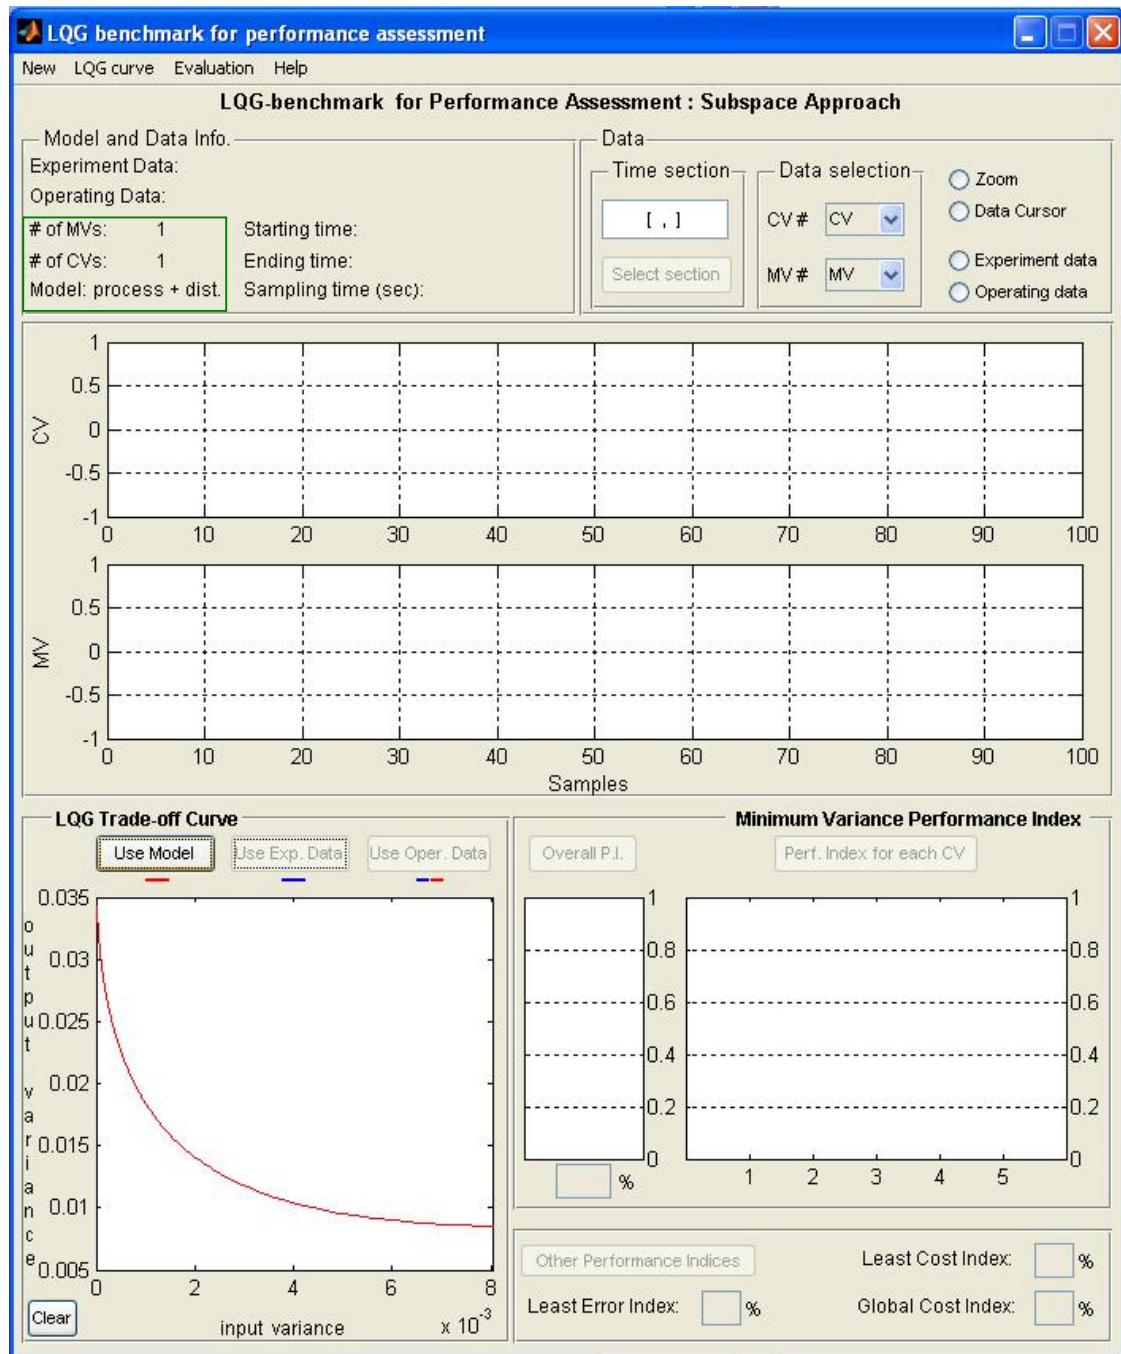

Figure 5: LQG curve calculated using the provided a complete model
- 9) If an open-loop model is loaded, you may press the 'Use Model' button to generate trade-off curve (in red) as in Figure 5. Depending on the type of process dynamics and number of inputs and outputs, it takes a few seconds to a few minutes to perform the calculation.